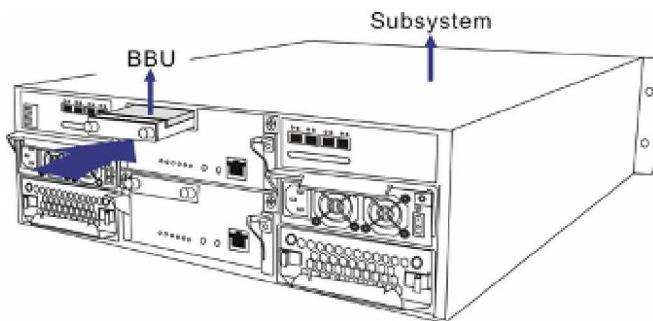

Figure 5-10: Installing the BBU
Step 2. Install the new BBU. Align the BBU with the slot, and then gently push the BBU into the slot. (See *Figure 5-10*)